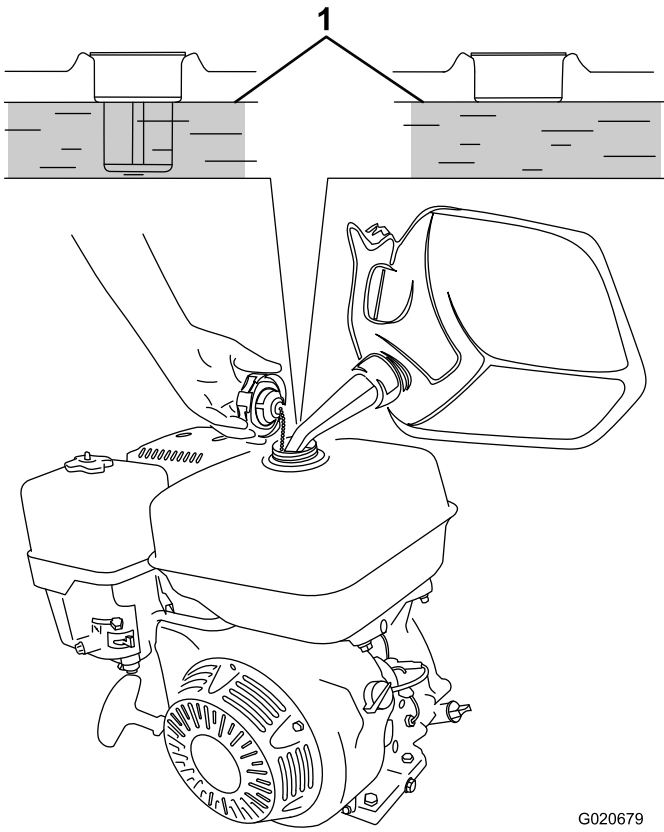

Figure 27
3. Add fuel to the fuel tank until the level is at the maximum fuel level (Figure 27).